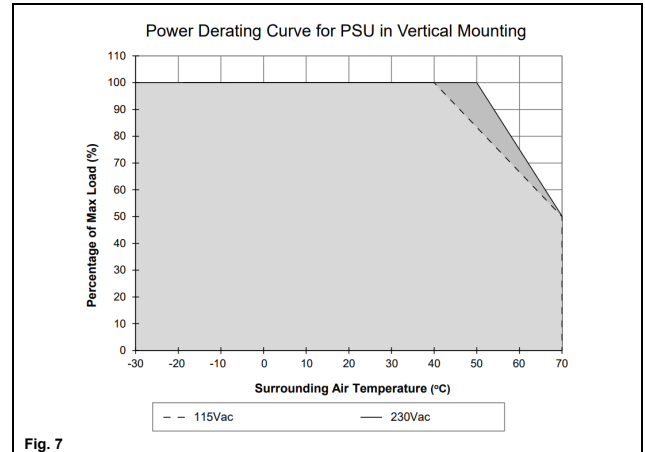

Fig. 7
**5.4. Thermal behavior (Fig. 7)**
If the output capacity is beyond what is recommended in Fig. 7, the device will run into thermal protection by switching off i.e. the output voltage will go into latch-off mode until the component temperature cools down and the AC power is recycled.
Operating temperature	-30 °C ... +70 °C (Refer to Fig. 7)